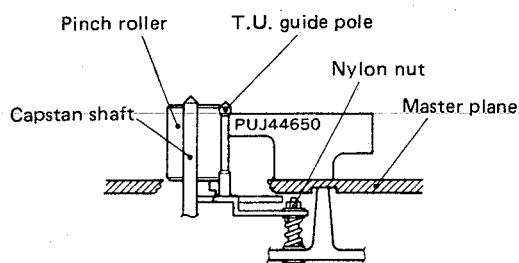

Fig. 2-31 Take-up guide pole height
2. If necessary, adjust the height by turning the nut as shown in Fig. 2-31. (For the nut adjustment, it is required to remove the master plane jig once.)